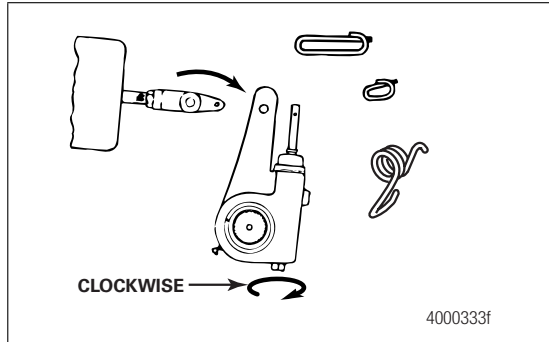

Figure 3.2
2. Use a wrench to turn the manual adjusting nut **CLOCKWISE** until the brake shoes are fully retracted, and the lining clears the drum. Figure 3.2.